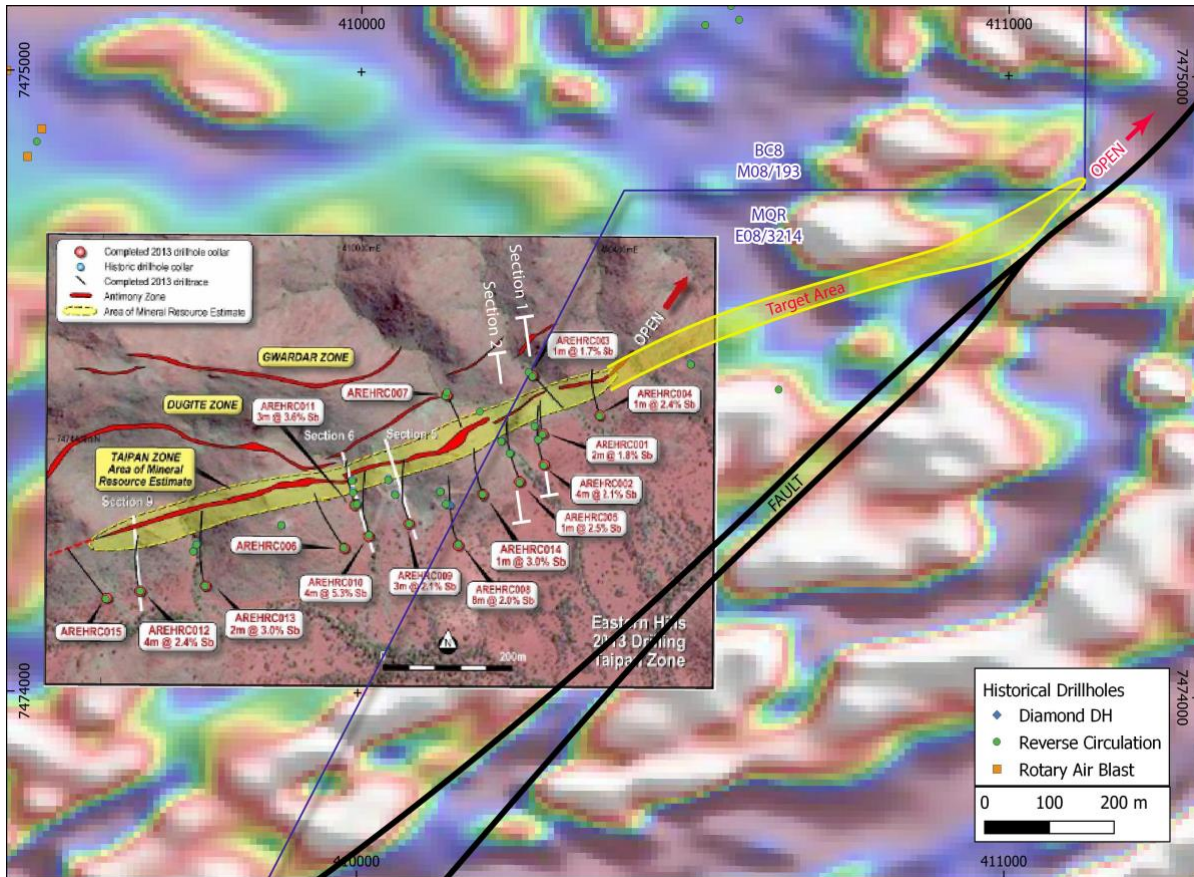
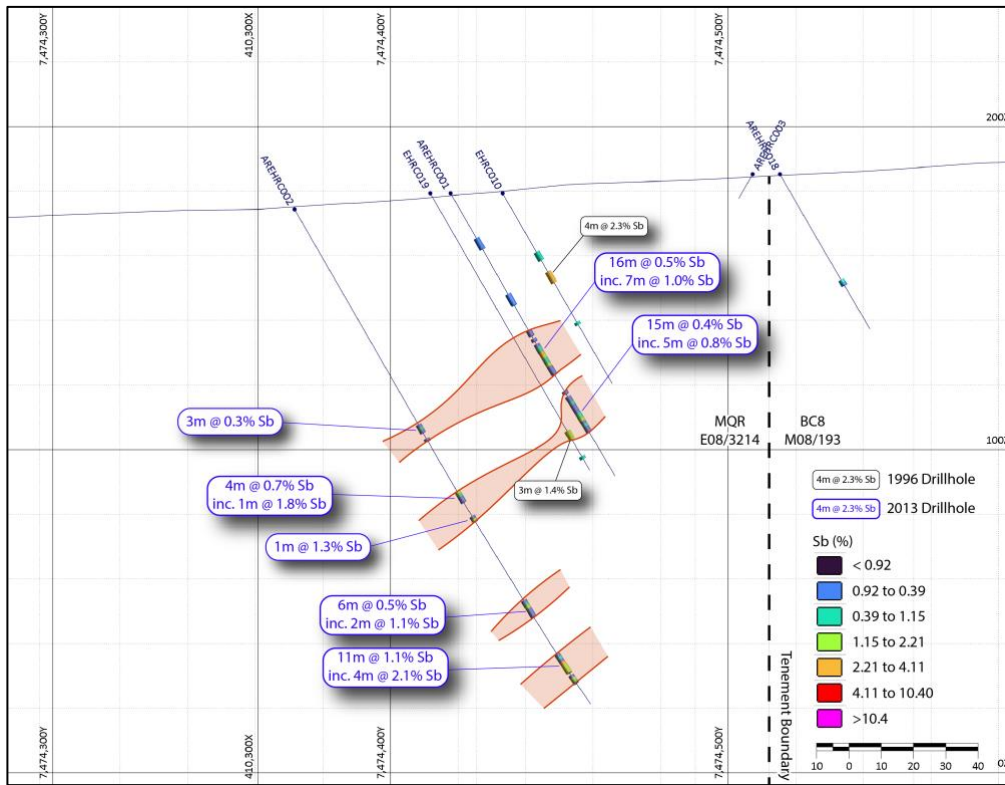

Figure 2: Magnetic image of Eastern Hills area. Inset courtesy of ASX:ARV (Refer ARV ASX Release dated 29 Nov 2013).
Figure 3: Cross Section #1 highlighting historical drill hits sitting within Marquee tenure.
- Artemis's Resource Estimate only included mineralisation from the Taipan Zone, which has a strike extent of approx. 850m (Figure 2). Further exploration by Artemis and others has since identified additional mineralised zones, the Dugite and Gwarder zones.
- **The Taipan structural trend extends for a further 800m onto Marquee ground, but the area has had little to no exploration and thus remains open for the identification of further antimony bearing zones (Figure 2)**.
The Mount Clement (Eastern Hills) Antimony-Lead deposit was originally explored by BHP and Taipan Resources before Artemis Resources Ltd published a maiden JORC compliant resource of 1.3 Mt @ 1.7% Sb, 2.5% Pb, 24g/t Ag and 0.34g/t Au (Refer ARV ASX Release dated 29 Nov 2013). The Resource Estimate only included mineralisation from the Taipan Zone, which has a strike extent of approx. 850m (Figure 2). Further exploration by Artemis and others has since identified additional mineralised zones, the Dugite and Gwarder zones.
Historical drilling completed by Artemis indicates approximately 220m of known mineralisation sits within Marquee tenement E08/3214 (Figures 2-4). The Taipan structural trend extends for a further 800m onto Marquee ground, but the area has had little to no exploration and thus remains open for the identification of further antimony bearing zones (Figure 2). The limited drilling completed also indicates that mineralisation is open down dip (Figure 3 & 4) and depth extensions will be targeted in future drilling programs.